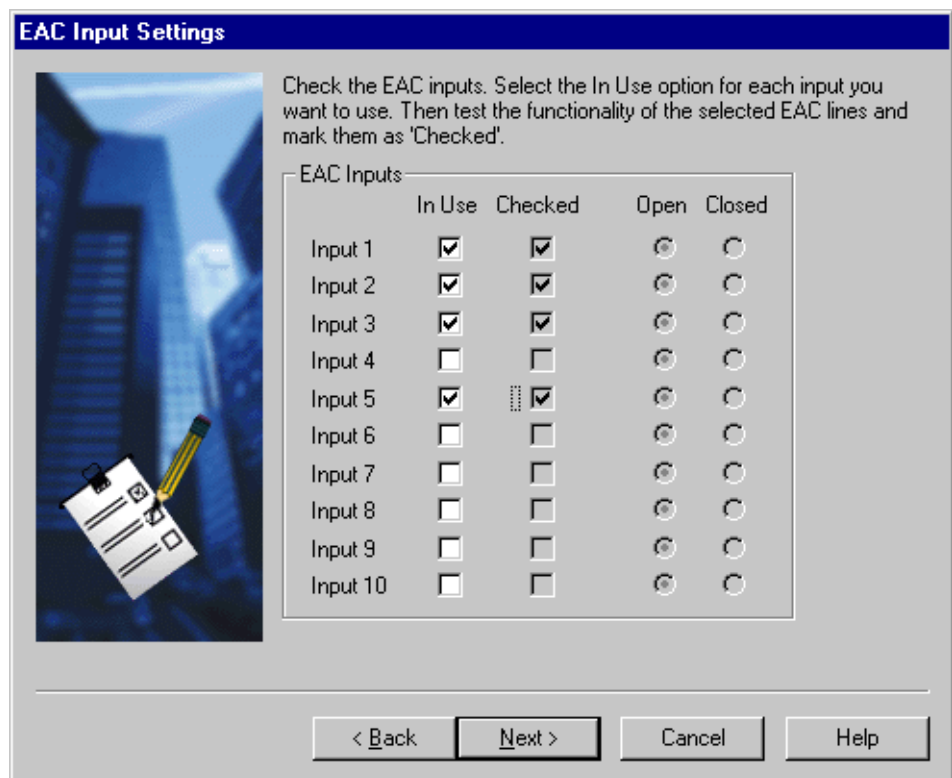

Figure 10. Setting and testing EAC inputs in real time
9. On the *EAC Input Settings* wizard page (Figure 10), select the required EACs as 'In Use' by marking the checkboxes and then test their functionality in real time.